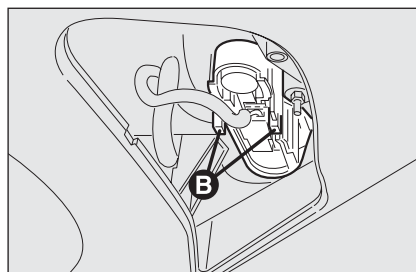

fig. 36
- ☐ remove the bulb holder unit by pressing the retaining tabs **B-fig. 36**;
- ☐ refit the bulb holder unit securing it properly using the retaining tabs **B-fig. 36**;